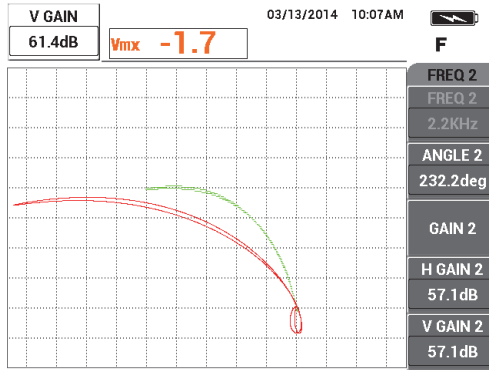

Figure 5-124 Adjusting the vertical amplitude of the frequency 1 signal
- Press the GAIN key (**dB**) again, and then increase the vertical amplitude of the frequency 1 signal (green) until it extends exactly 4 divisions above the null point (see Figure 5-124 on page 215).